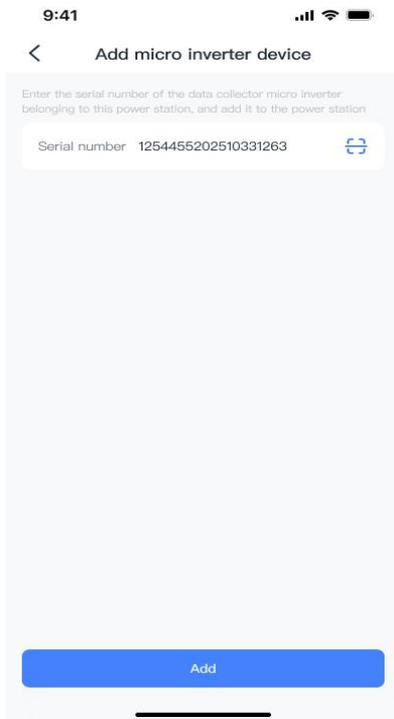

Figure 8.5.1
- Way 1: After entering the device serial number, click the "Add" button (Figure 8.5.1)